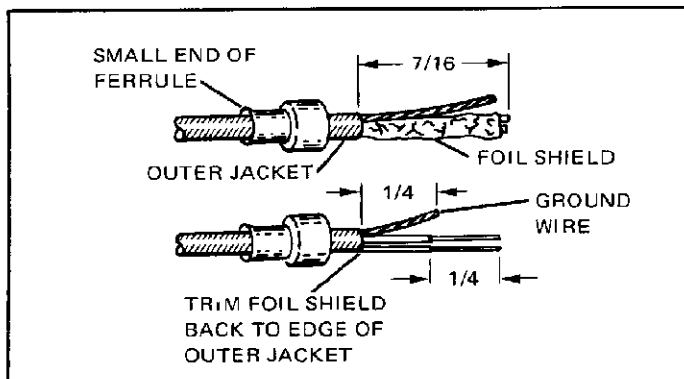

Figure 4
- Strip cable to dimensions specified in Figure 4.